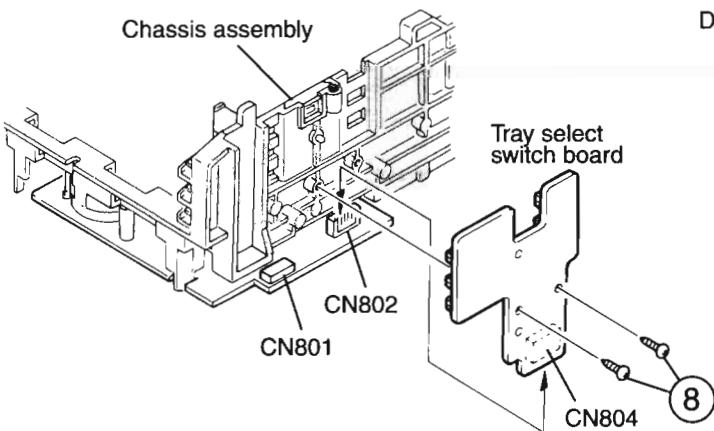

Fig.15
- Remove the two screws 8 retaining the tray select switch board(See Fig.15).
■ Removing the can unit (See Fig.15 ~18)
- While turning the cam gear L, align the pawl "N" position of the drive unit to the notch position(Fig.15) on the cam gear L.